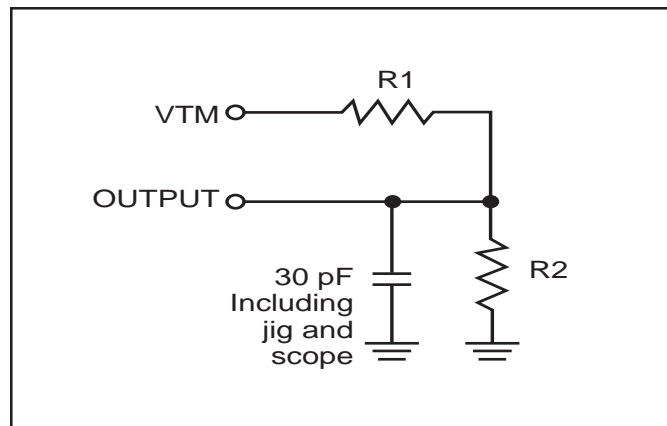

Figure 1
- Test conditions assume signal transition times of 5 ns or less, timing reference levels of 0.9V/1.5V, input pulse levels of 0.4 to $V_{DD}-0.2V/0.4V$ to $V_{DD}-0.3V$ and output loading specified in Figure 1.
1. Test conditions assume signal transition times of 5 ns or less, timing reference levels of 0.9V/1.5V, input pulse levels of 0.4 to $V_{DD}-0.2V/0.4V$ to $V_{DD}-0.3V$ and output loading specified in Figure 1.